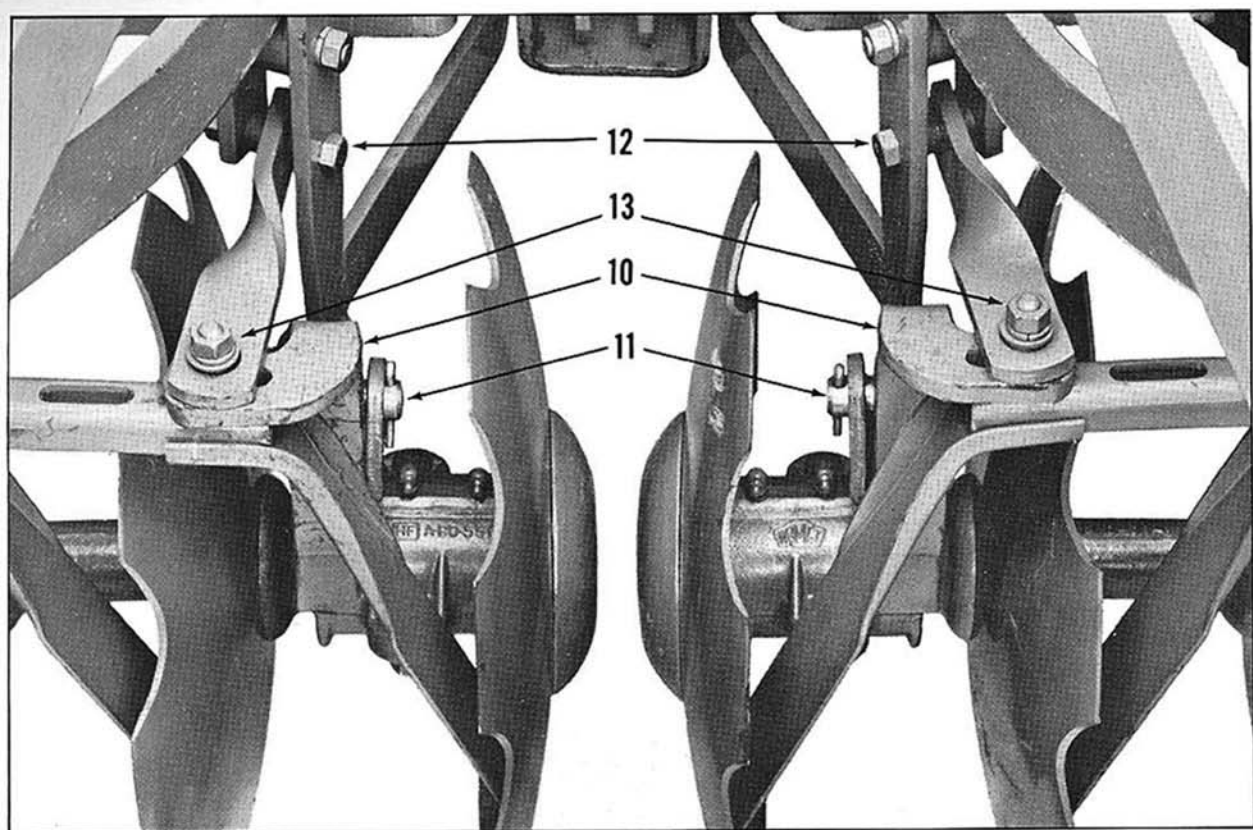

Fig. 5
10. Place inner scraper supports on bolts protruding from the bearing box. (See Fig. 5.)